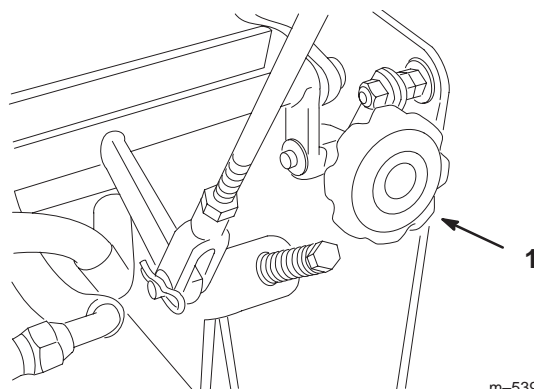

Figure 46
4. If the unit tracks to one side or the other, turn the quick track knob. Turn the knob right to steer right and turn the knob left to steer left (Fig. 46).